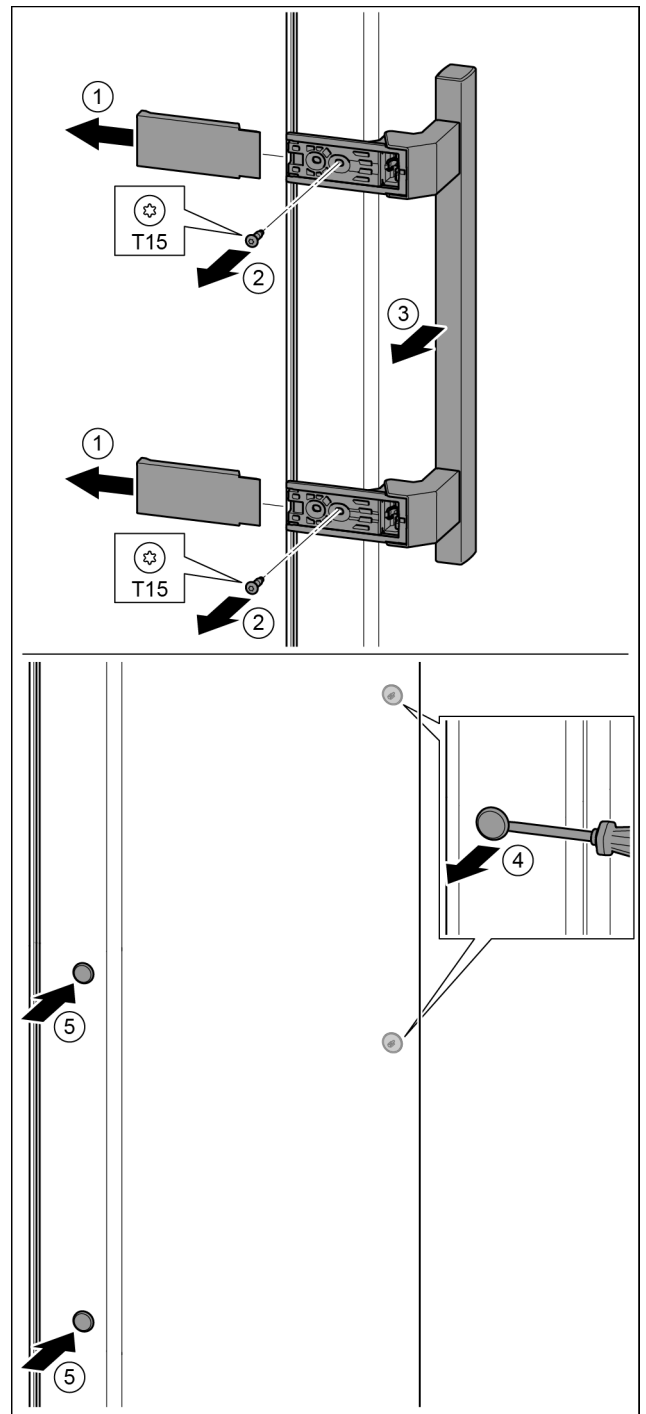

Fig. 33
- Pull off the cover. Fig. 33 (1)
- Remove the screws with the T15 screwdriver. Fig. 33 (2)
- Remove the handle. Fig. 33 (3)
- Carefully lift up the side plugs with a slotted screwdriver and pull them out. Fig. 33 (4)
- Insert the plugs again on the other side. Fig. 33 (5)